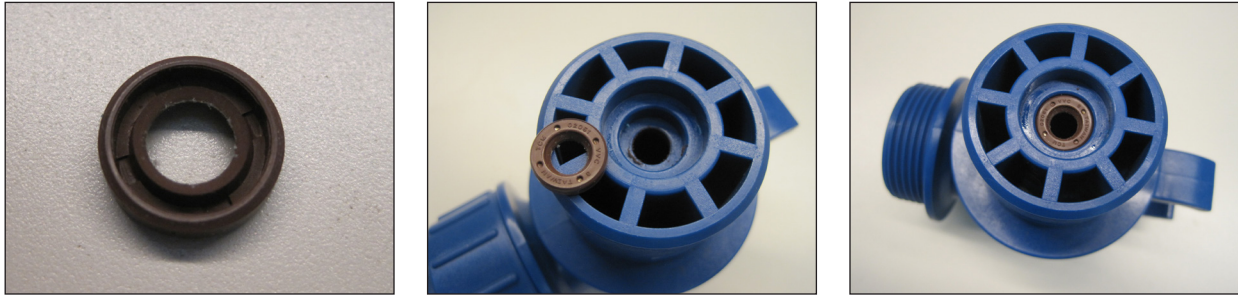

Figure 10 A, B, & C
- 1. Seal Installation** - Take the head (item 7), and install a new seal (item 4). It is recommended to lubricate the seal with a compatible lubricant or water prior to pressing it in. Insert the open part of the seal into the lower bore of the head. Use a 7/16" (12 mm) dowel to press and seat the seal into place. Seal sits slightly below the surface. See figures 10 A, B, & C. Note: never reuse an old lip seal.